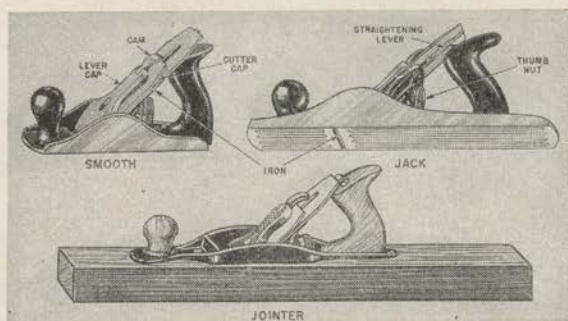

FIGURE 35.—Three types of bench planes.
h. Planes.—(1) A plane (fig. 35) is a tool for shaving wood surfaces to smooth them, reduce them, or change their shape. It has a wooden or iron bottom with a 30° beveled iron projecting through a slot in its under side. The plane iron, also known as “blade” or “cutter,” inclines backward, so that it scoops shavings up through the slot as it cuts. A cutter cap breaks the chips and a lever cap holds the cutter cap and iron in place. The iron and cap can be fed down
(2) Most bench planes are classified as smooth, jack, fore, and jointer, three of which are illustrated in figure 35. Iron bottoms are more durable but many beechwood bottoms are still in use. Some iron bottoms are grooved to reduce friction.